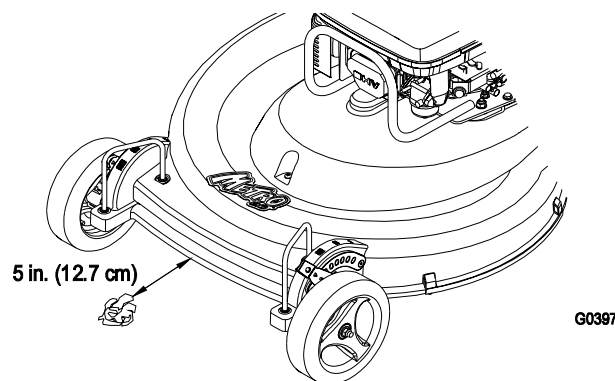

FIGURE 10
5. Take a half sheet of newspaper and crumple it into ball small enough to go under the deck (about three inches or 76 mm in diameter) as shown in Figure 10.
6. Place the ball of newspaper five inches (12.7 cm) in front of the lawn mower (Fig. 10).